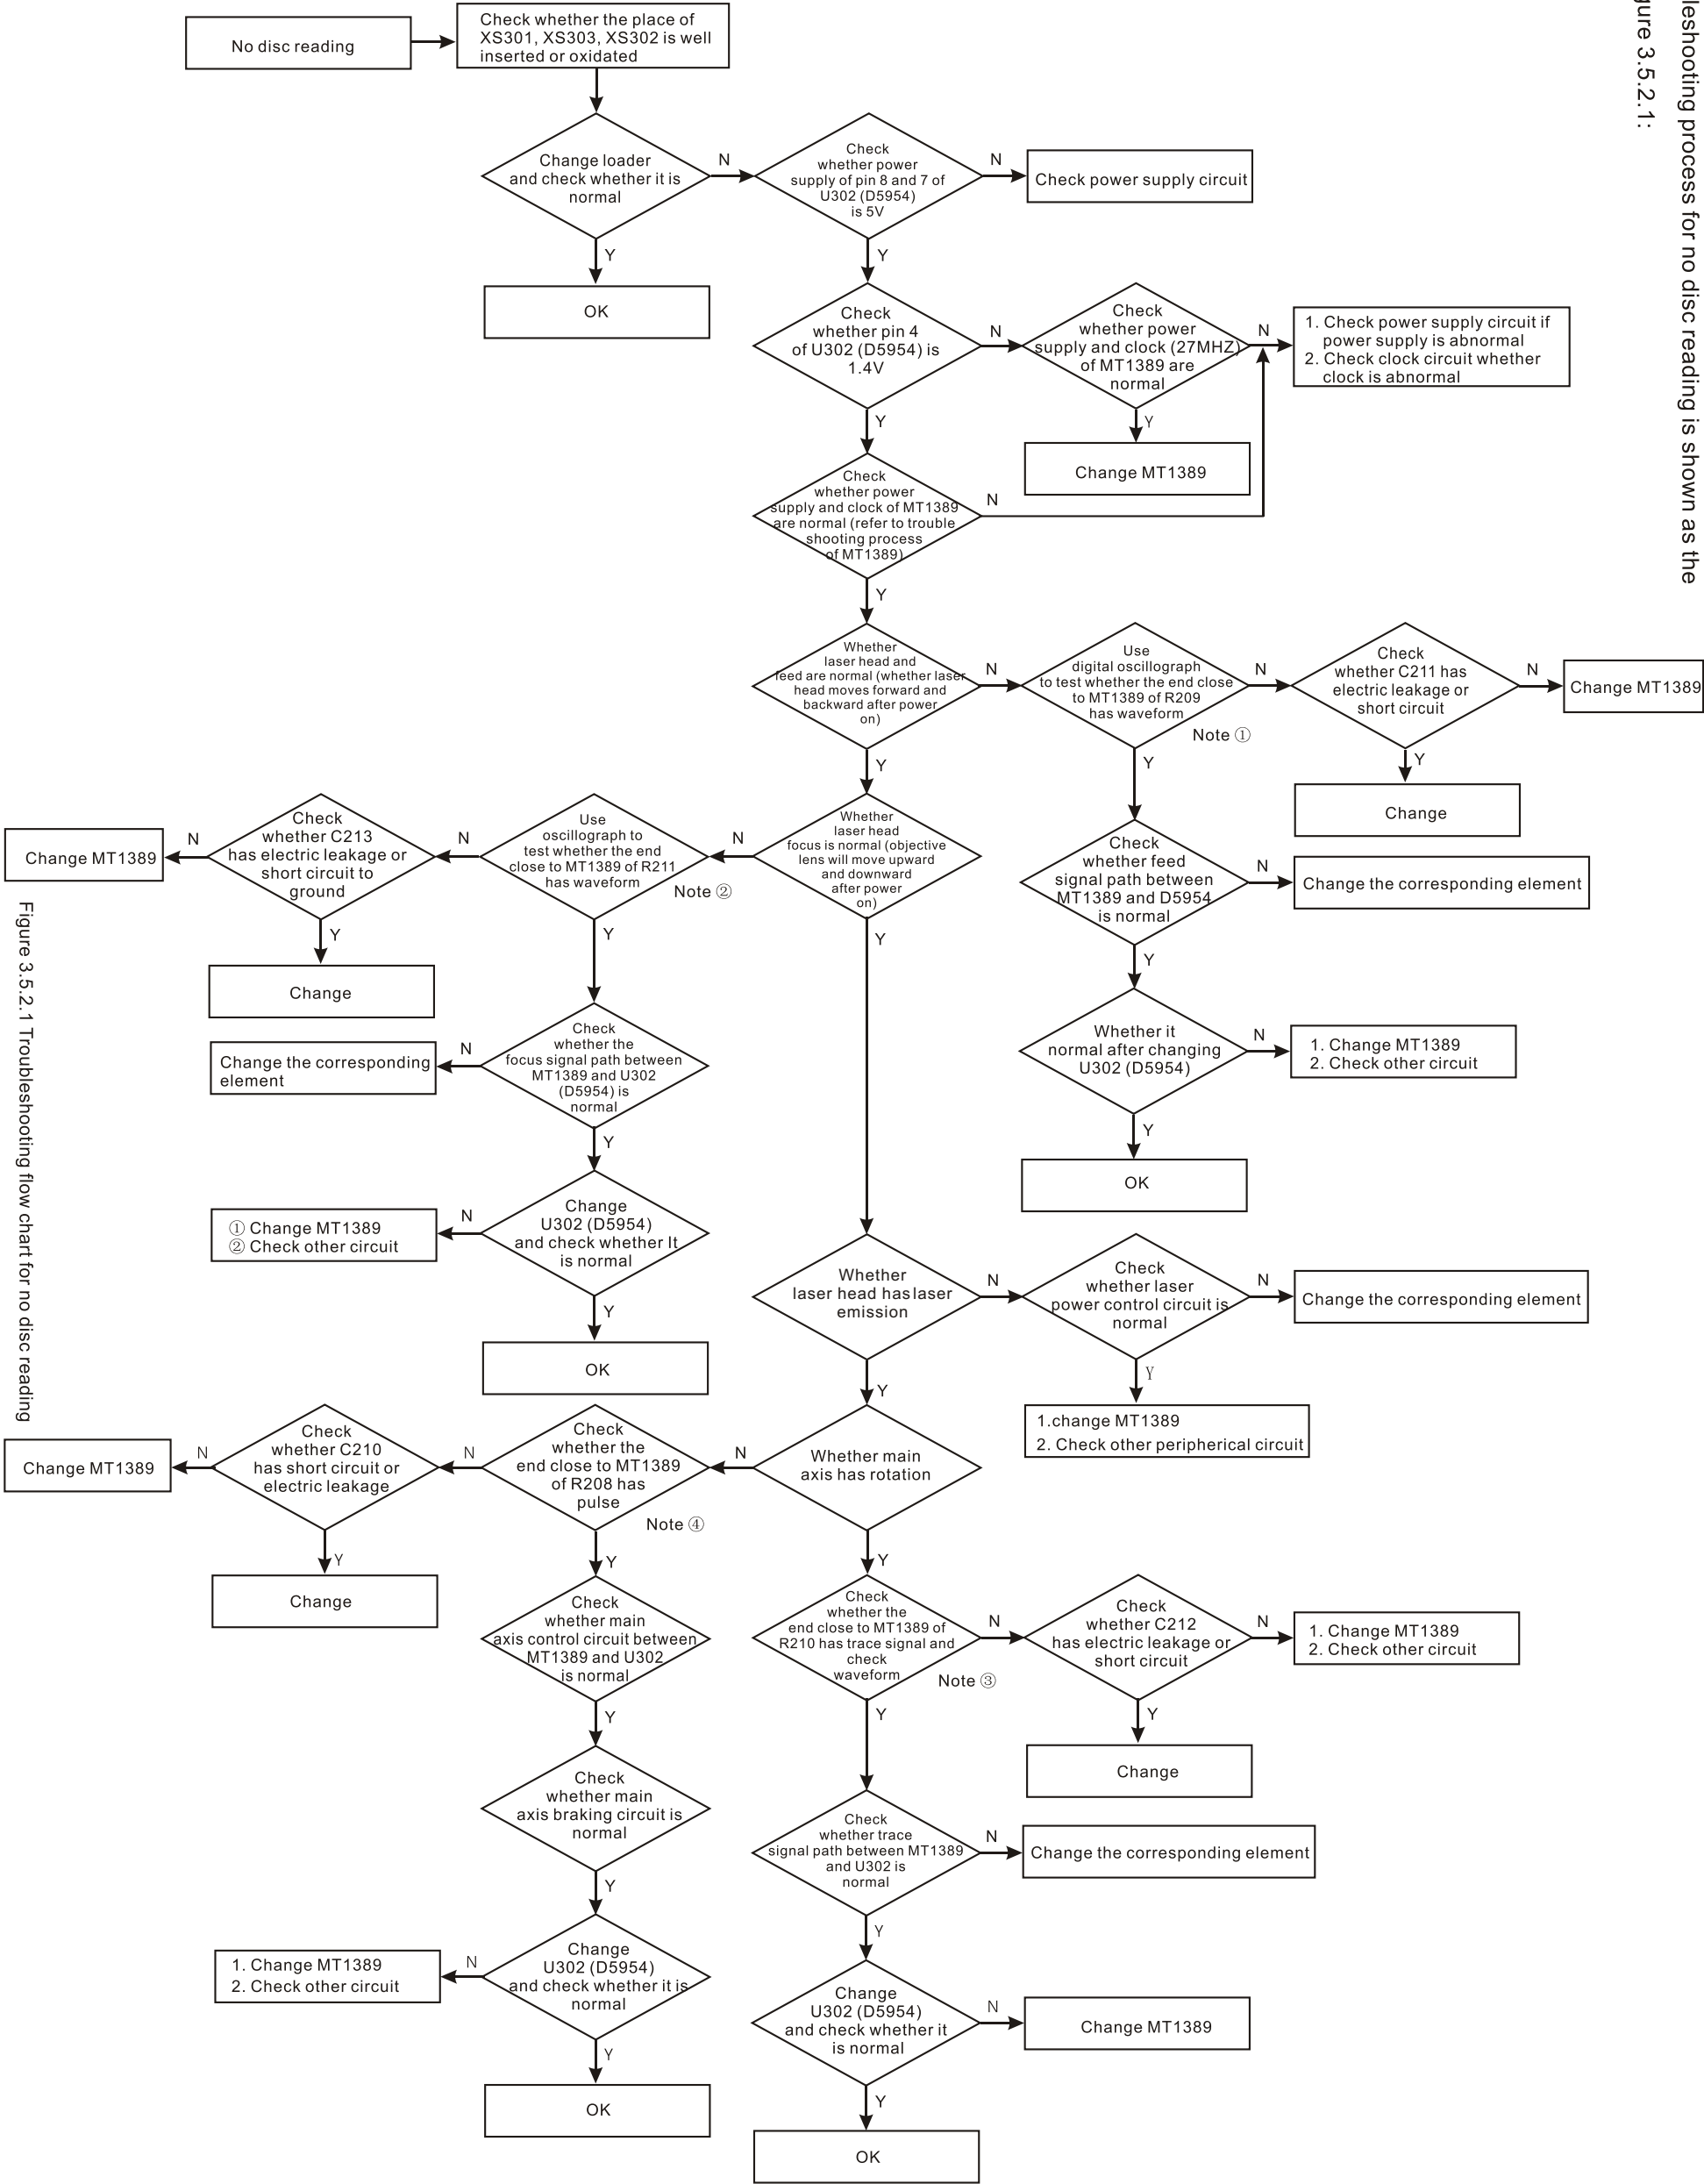

Figure 3.5.2.1 Troubleshooting flow chart for no disc reading
3.5.2 Troubleshooting process for no disc reading is shown as the following figure 3.5.2.1: